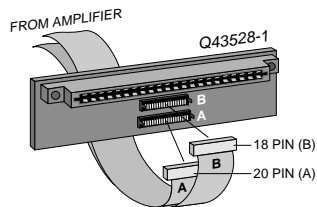

Fig. 3.4 PIP2 Input Adapter Connection
2. Remove the existing *P.I.P.* module or panel (two screws). For *PIP2* amplifiers, this may involve disconnecting the *P.I.P.* from a *PIP2* input adapter (see Figures 3.4 and 3.5). If a *PIP2*
PIP2 Amplifiers: (Requires a *PIP2* input adaptor. Crown part number Q43528-1.) Connect the *PIP2* input adapter to the two input cables of the amplifier (see Figure 3.4). Notice that the *PIP2* input adapter should be positioned with the *P.I.P.* edge connector on top and facing away from the amplifier. The 20 pin cable (A) is connected first then the 18 pin cable (B) is connected. Both ribbon cables should extend below the *PIP2* input adapter.